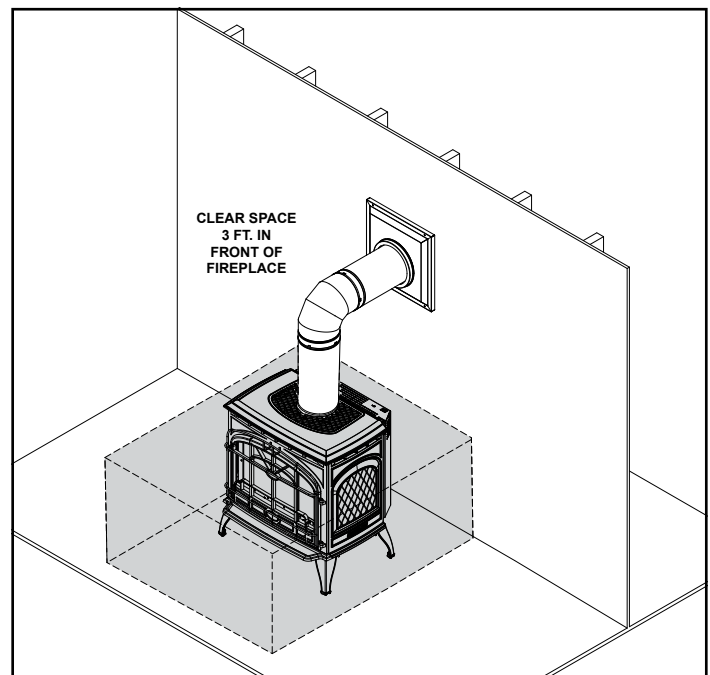

Figure 3.1 Clear Space
**WARNING! DO NOT place combustible objects in front of the stove or block louvers.** High temperatures may start a fire. Figure 3.1.
Avoid placing candles and other heat-sensitive objects on top of appliance or in clear space. Figure 3.1. Heat may damage these objects. See appliance installation manual for additional clearance information.